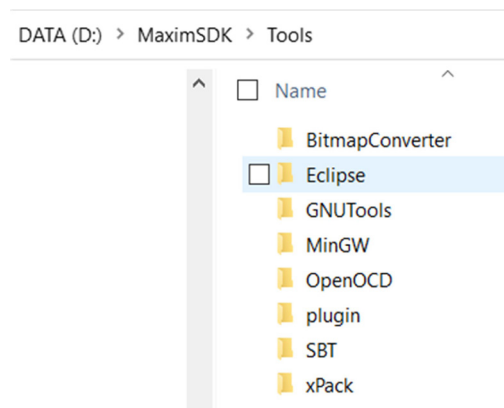

Figure B.5 Useful tools
6. This folder contains some useful software tools (Figure B.5)
This folder contains some useful software tools (Figure B.5)